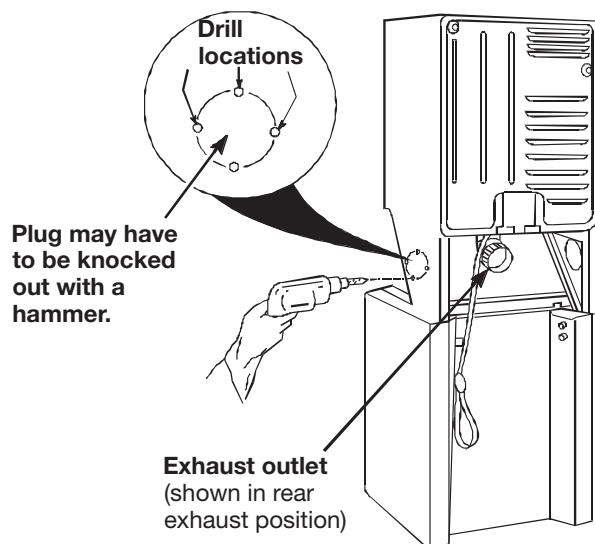

Figure 1
2. Remove left or right side panel knockout by drilling four (4) 1/4" holes at the drill locations (dimples) shown. See Figure 1.